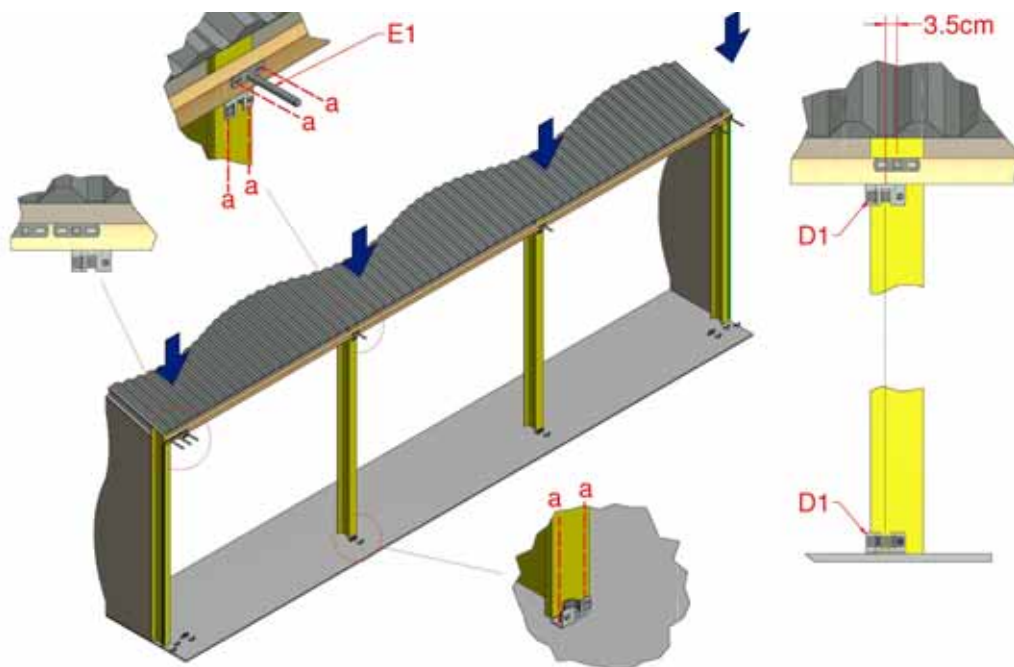
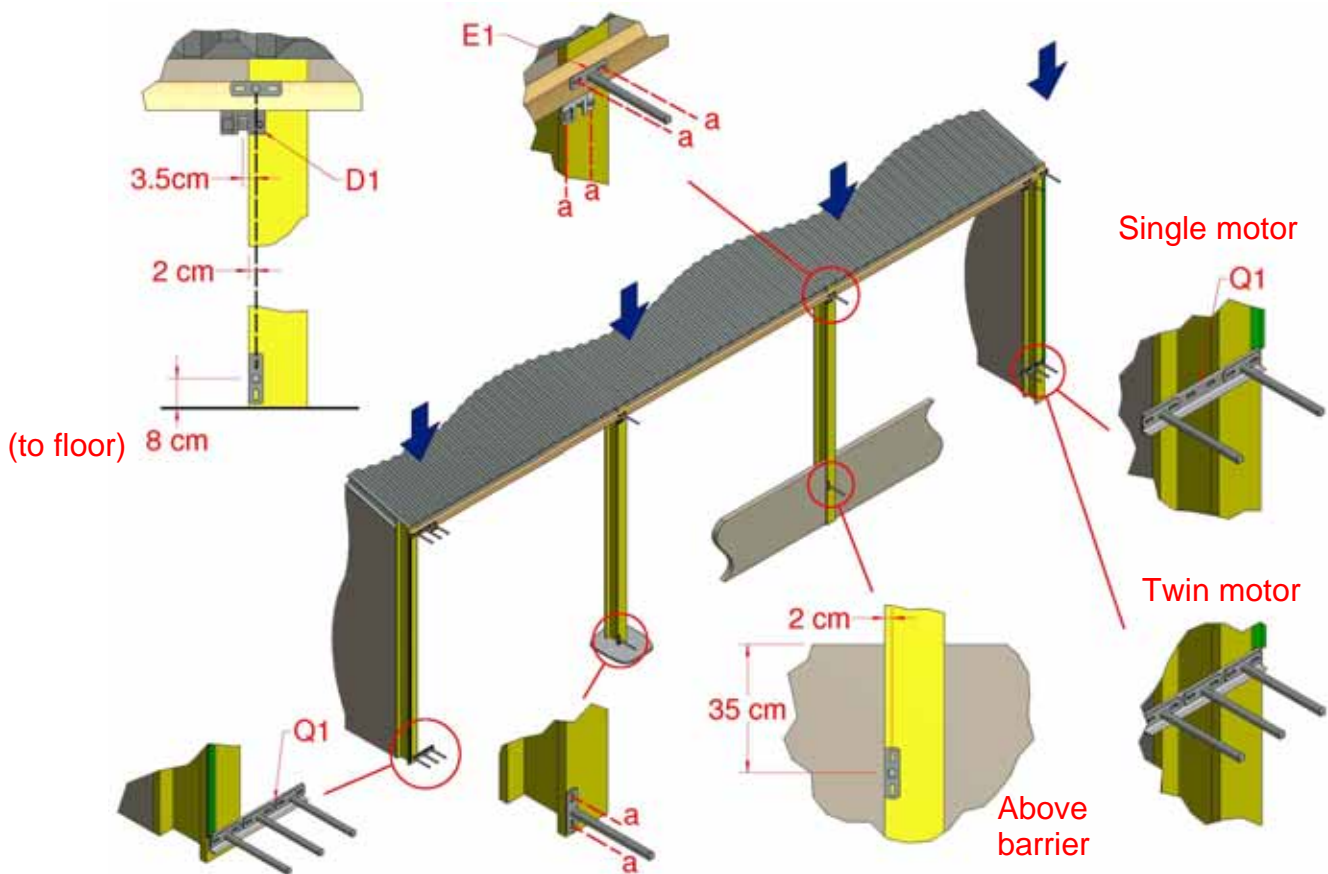

Figure 5a, Intermediate Control Tube Bracket Installation (Face-End)
Figure 5b, Intermediate Control Tube Bracket Installation (Face-Face)
2.3 Fit the upper Face Brackets (E1) at each intermediate bay upright as shown in Figure 5a. These brackets must be aligned horizontally with the Face Brackets at the ends of the installation.
from the middle of the upper Face Bracket as shown in Figure 5a for Face-End and Figure 5b for Face-Face configuration.
- a) For Face-End installation pre-drill the lower inner End Support (D1) holes in the floor vertically aligned with the upper End Supports, the supports will not be fixed until the intermediate control tubes are fitted, Figure 5a.
- b) For Face-Face installation fix the lower Face Bracket (E1) vertically aligned with the upper Face Bracket and in the orientation shown in Figure 5b, noting the offset above the floor or below the barrier for the respective option ordered. Fit the Face-Face lower Cover Bracket (Q1) and Face Brackets (E1) to the building upright at a